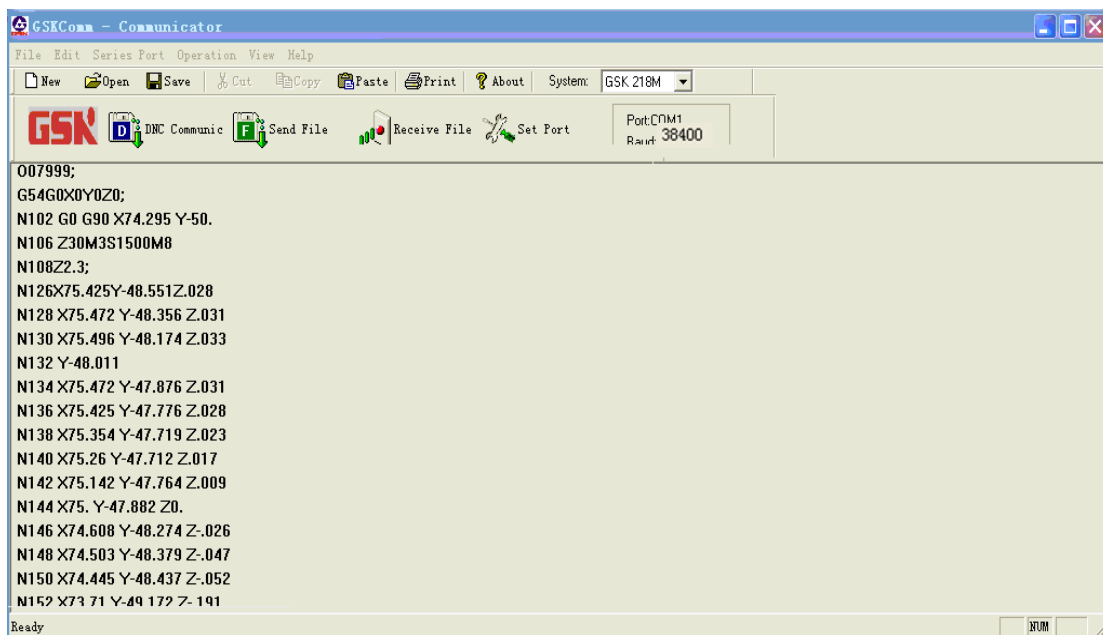

Fig. 11-1-4-1
3. Open CNC program files. Open the program files by pressing button “Open” in menu “File” or button  in the toolbar, as is shown in fig.11-1-4-1 below (further edit for the program files by serial communication software)
4. DNC transmission. Click  in the toolbar or pull-down menu “DNC Communic” in menu “Operation” to send the data. When the system I/O channel is set to 0, PC sends the files directly in a common way, then “DNC COMMUNICATION dialog displays the states of file sending, including the file name, sent bytes, sent lines as well as sent time and speed (byte/s), as is shown in fig. 11-1-4-2. When the system I/O channel is set to 1, PC sends